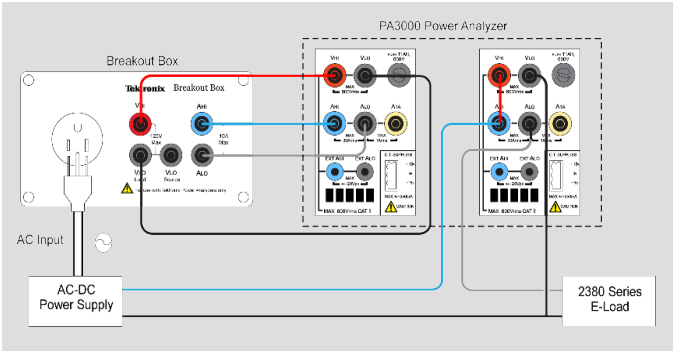

Figure 9: AC-DC efficiency measurement wiring diagram.
- AC input on the DUT is connected to the first channel of the PA3000 using a Tektronix BB1000 Breakout Box, as shown in the wiring diagram. (See **Figure 9**.)
- The output DC voltage and current are measured on the second channel of the PA3000 Power Analyzer as shown in **Figure 9**.